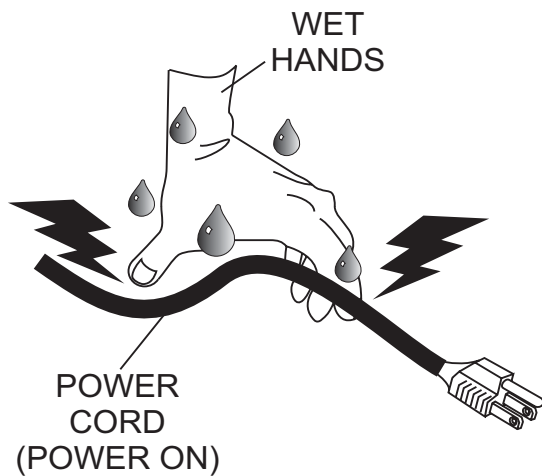

Figure 4. Power Cord (Wet Hands)
4. **NEVER!** grab or touch a live power cord (Figure 4) with wet hands, the possibility exists of **electrical shock**, **electrocution** and even **death**.